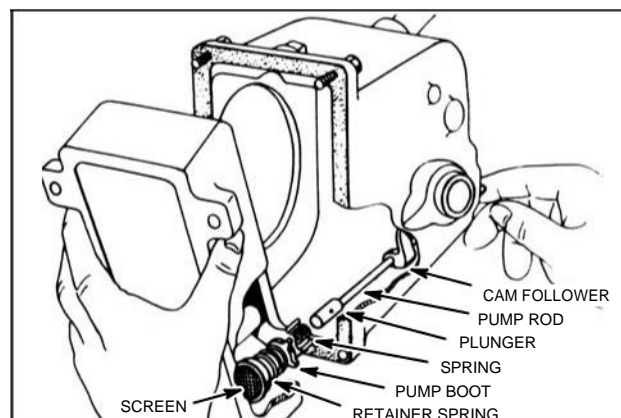

Fig. 566 – OIL SYSTEM MODEL FI
The pump body and oil trough is a unit assembly, mounted on two (2) bosses in the engine base, Fig. 566.